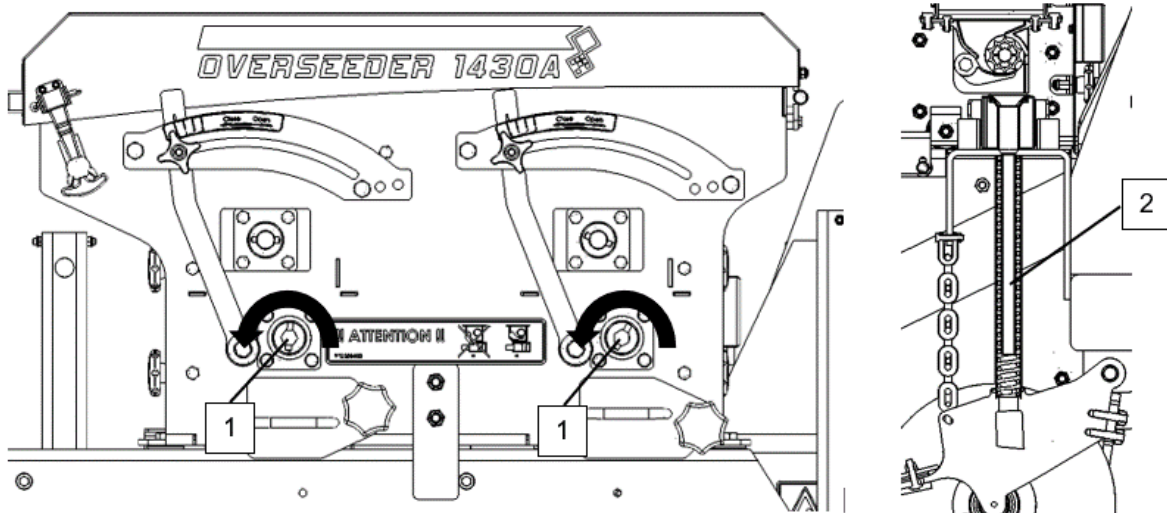

Fig. 7-1
- Check that the shaft that drives the seed cups rotates smoothly. When the hopper is empty, the shaft (1) must be able to rotate with a wrench without too much force. Rotate the shaft in the direction indicated by the arrow. (See Fig. 7-1)
- Check that the seed passage (2) is not blocked. (Fig.7-1)